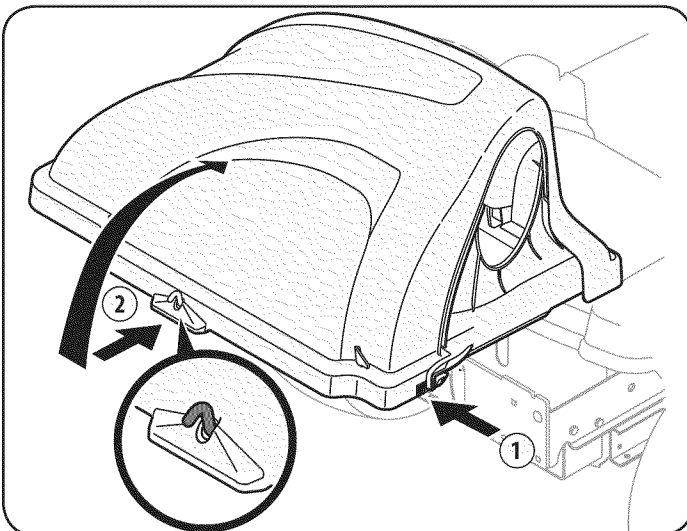

Figure 19
7. Open grass catcher cover by pushing in on the rear, right-side tab with your right-hand, as seen in 1 of Fig. 19, and lifting with your left-hand in the rear center, 2.